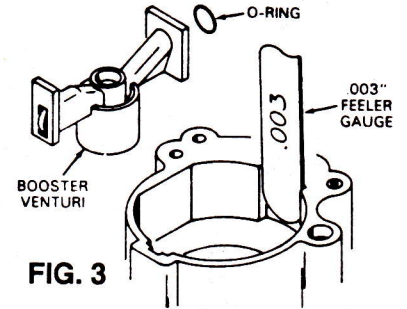

FIG. 3
3. To remove idle adjusting needle plug (52), drill a 3/32" dia. hole at center of plug and extract it with an Easy-Out tool.
4. Before removing adjusting needle (53), turn clockwise until lightly seated. Record number of turns. Bring adjusting needle to original position to maintain proper calibration.
6. To remove pop rivets (7), use a 1/8" drill bit to drill off rivet head. Drive remaining rivet out of the hole with a 1/8" punch.
10. When removing booster venturi (48) it may be necessary to slightly tap it from underneath. To install the booster venturi, follow instructions:
- A. Lubricate o-ring (49) with oil and place into venturi.
- B. Insert feeler gauge in groove of main body as shown in FIG. 3.